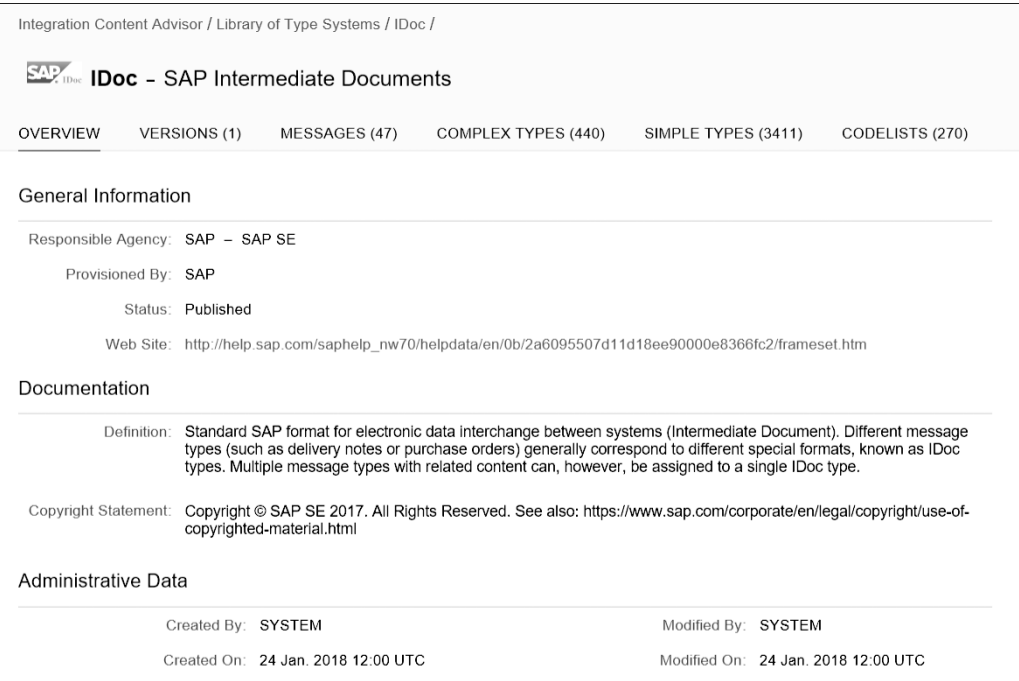

Figure 7.4 SAP IDoc Type System: Overview
3. Let's first explore the SAP IDoc type system, as our outbound interface will be based on it. Select the **SAP IDoc** type system. A new window opens providing the details, as depicted in Figure 7.4. The **OVERVIEW** tab shows **General Information**, such as the **Responsible Agency** and the **Status**, as well as further **Documentation** about the type system. In addition, creation and modification information is shown in the **Administrative Data** area.